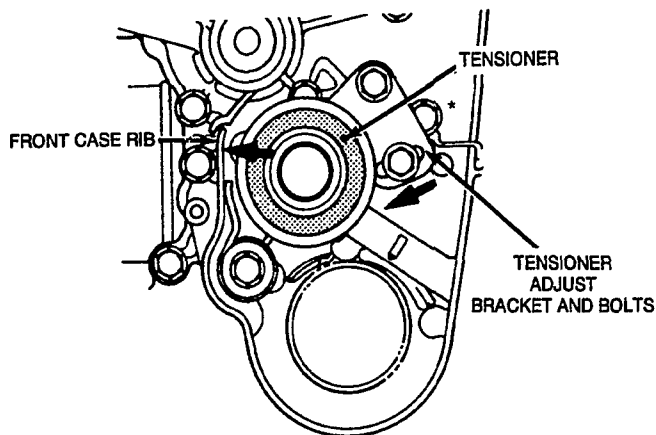

FIGURE 9-4. TEMPORARY POSITIONING OF TENSIONER
2. Loosen the tensioner bracket adjust bolts. Insert a screwdriver between the boss marked with an asterisk(*) in Figure 9-4 and the bracket and pry to move the pulley until it touches the front case rib. Temporarily fix tensioner in this position by tightening the bolt in the slot.
4. Insert a screwdriver between the boss marked with an asterisk (*) in Figure 9-4 and the tensioner bracket. Pry to move the tensioner until it touches the front case rib. Temporarily fix the tensioner there by tightening the bolt in the slot.